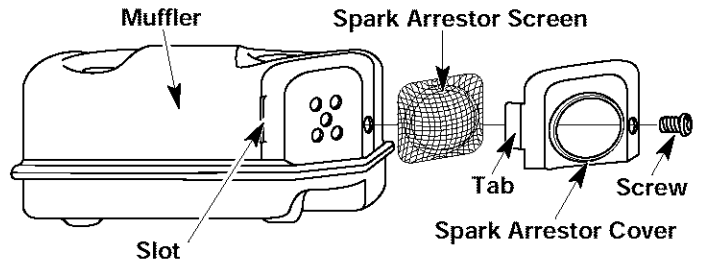

Fig. 48
2. With a flat blade screwdriver or Torx T-20 bit, remove the screw attaching the spark arrestor cover to the muffler (Fig. 48).